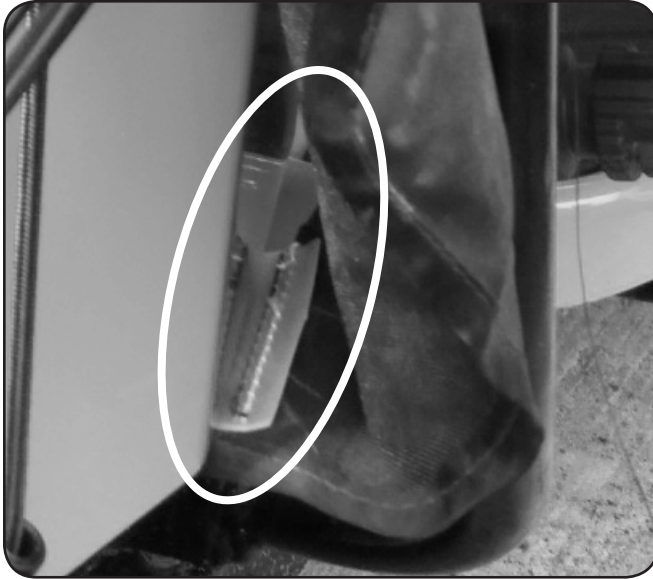

Figure 3-13
- The outer front clips attach to the front fenders near the wheels. See Figure 3-13.